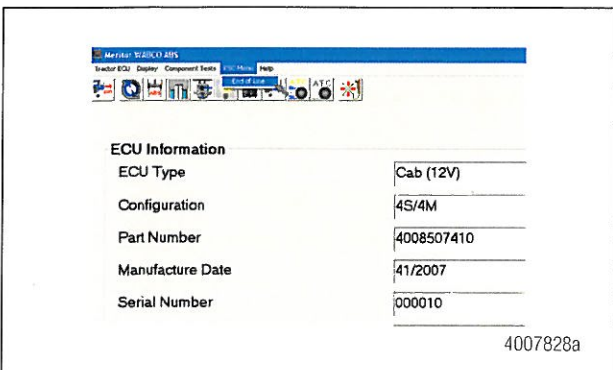

Figure 18
3. Again click on the ESC Menu from the bar menu at the initial screen. Select the "End of Line" option. Figure 18.